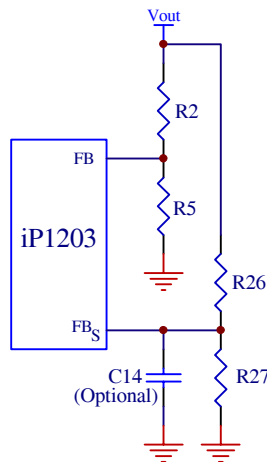

Fig. 14: Typical Scheme for Output Voltage Setting
The output of the iP1203 will shut down if it experiences a voltage in the range of 115% of V_{OUT} . The overvoltage sense pin FB_s is connected to the output through voltage dividers, R26 and R27 (Fig. 14), and the trip setpoint is programmed according to equation (1). A separate overvoltage sense pin FB_s is provided to protect the power supply output if for some reason the main feedback loop is lost (for instance, loss of feedback resistors). An optional 100pF capacitor (C14) is used for delay and filtering.
When selecting output capacitors, it is important to consider the overshoot performance of the power supply. If the amount of capacitance is not adequate, then, when unloading the output, the magnitude of the overshoot due to stored inductor energy, and depending on the speed of the response of the control loop, can exceed the overvoltage trip threshold of the iP1203 and can cause undesirable shutdown of the output. The magnitude of the overshoot should be kept below 1.125V_{OUT}. To prevent the overshoot from tripping the output a delay can be added by installing capacitor C14 as shown in Fig.14.